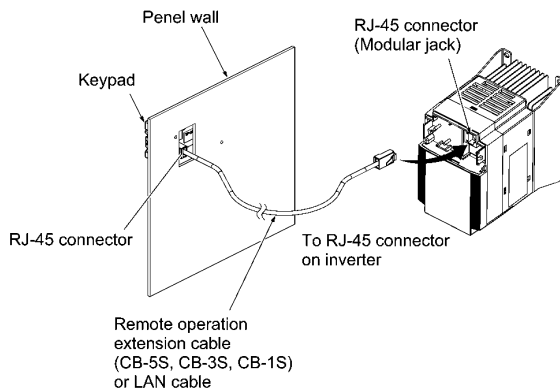

Figure 2.28 Connecting a Keypad and an Inverter's Standard RS-485 port
- ⑤ Connect an extension cable (CUBRMC-5, CUBRMC-3, CUBRMC-1) or off-the-shelf straight LAN cable to RJ-45 connectors (Modular jacks) on the keypad and inverter (standard RS-485 port.) (Refer to Figure 2.28)